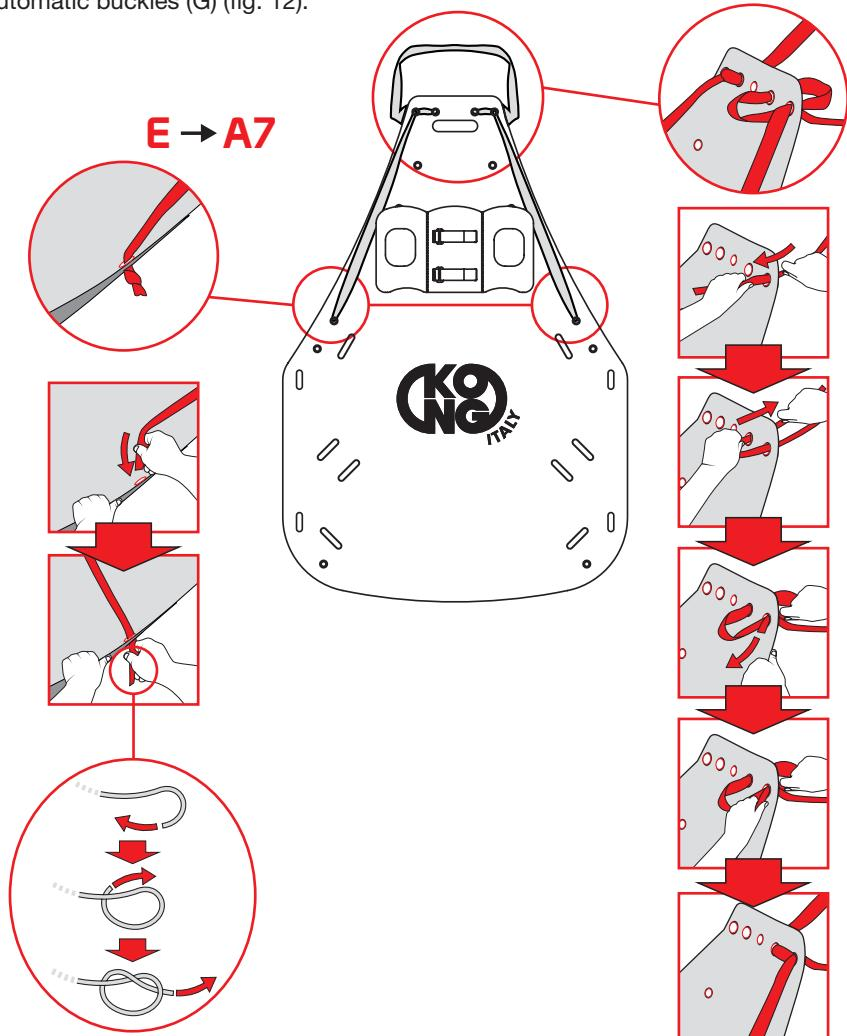

Fig.8
- Insert the sling (E) in the A7 holes in the support surface (fig. 8).